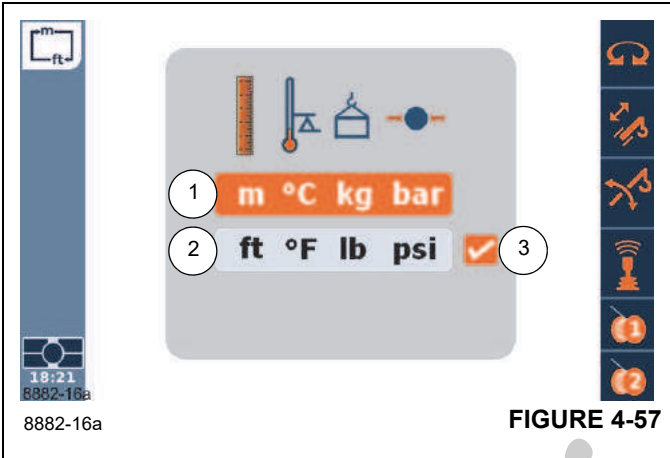

FIGURE 4-57
To set the Units of Measure Function, select symbol (3), (Figure 4-57) and confirm.